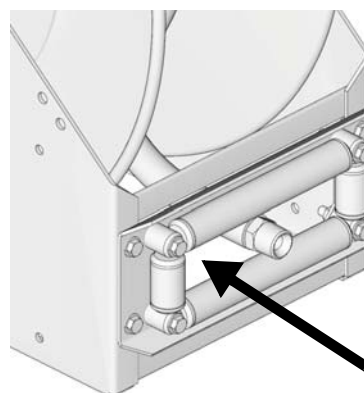

FIG. 9
- b. Feed the loose end of hose through the hose rollers and manually wrap hose and secure the hose to reel spool (FIG. 9).